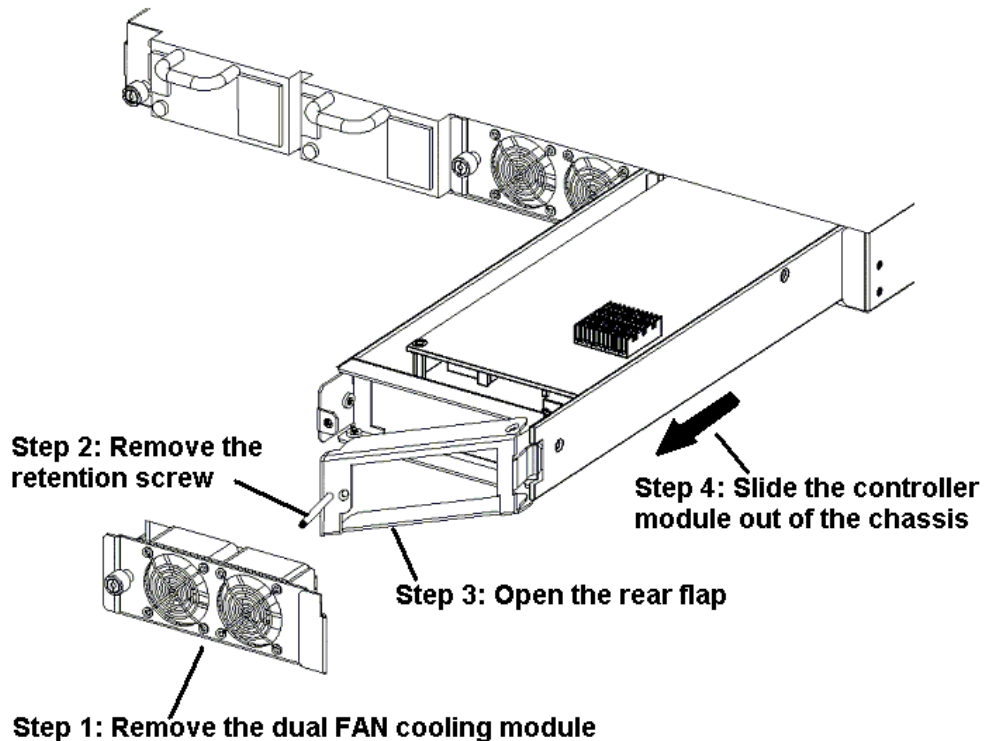

Figure 5-8: Remove the controller module
**Step 1. Remove the cooling FAN module** – The dual FAN cooling module blocks access to the controller module. Therefore, to remove the controller module, the dual FAN cooling module must be removed. To remove the dual FAN cooling module please refer to **Step 1** in **Section 5.3** above. See also **Step 1** in **Figure 5-8** below.
**Step 2. Remove the retention screw** – A retention screw is used to secure the rear flap of the controller module to controller module. This screw is located on the left-hand side and must be removed. See **Step 2** in **Figure 5-8** below.
**Step 3. Open the rear flap** – Once the retention screw has been removed from the rear flap of the controller module, the rear flap must be opened. Opening the rear flap will dislodge the controller module from the chassis. See **Step 3** in **Figure 5-8** below.
**Step 4. Remove the controller module** - Once dislodged, the controller module can be gently pulled out of the controller head. See **Step 4** in **Figure 5-8** below.